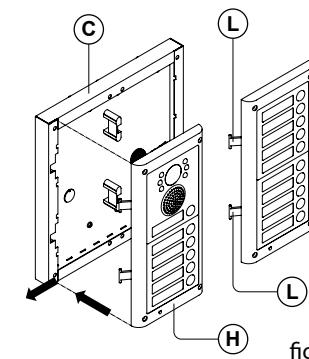
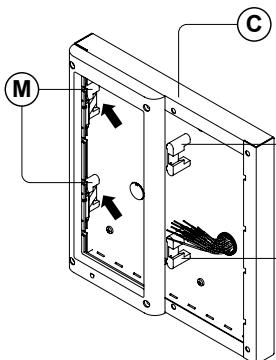

fig. 7
fig. 8
5. When you have more than one support frame, hook the support frame to the surface box starting from the left. For convenience we will described how to attach the left frame but the same must be carried out for the right frame. As shown in **Fig. 7**, hook the module support frame **H** (complete with modules) to the surface box **C** moving the frame as suggested from pointers. Ensure that the pivots **L** (**Fig. 7**) go inside the relevant housing **M** as shown in **Fig. 8**;